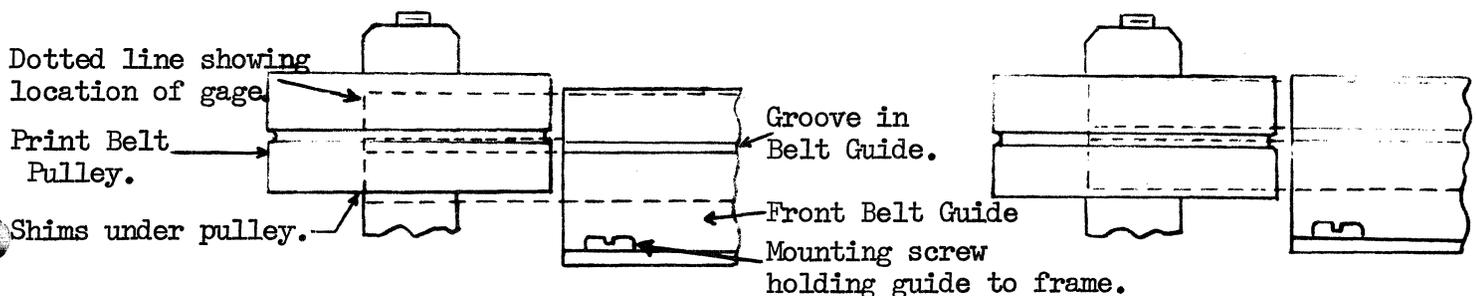

Figure 2 - Pulley Alignment
3. Holding the gage firmly against the front belt guide, check to see if the tongue on the gage will go into the groove on the pulley. If not, raise or lower the pulley as necessary for correct alignment by adding or removing pulley shims (see figure 2).